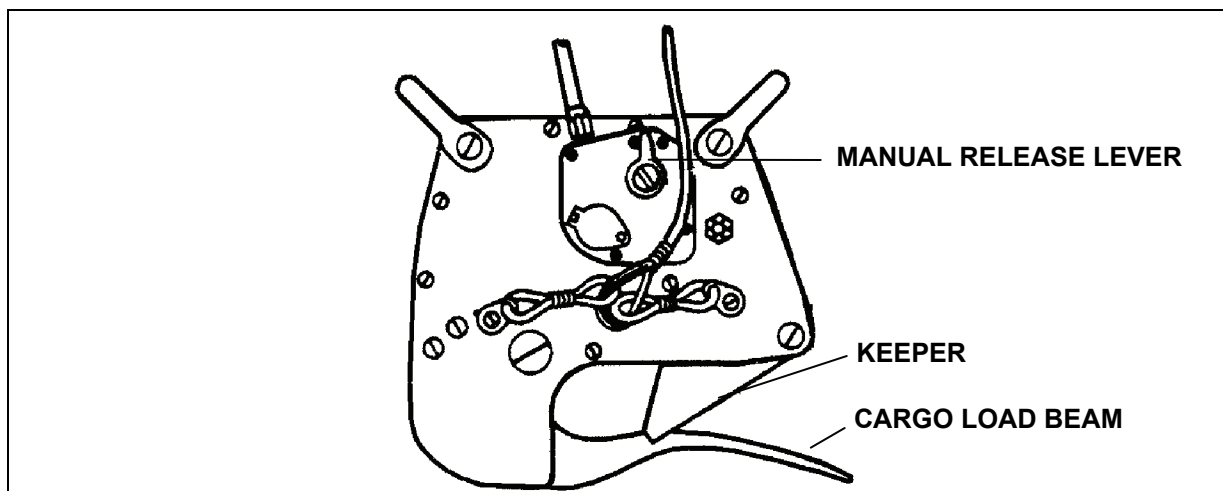

Figure 2-9. H-3 Cargo Hook System
- Both cargo hooks (Figure 2-9) are normally opened manually or electrically by the aircrew. A manual release lever is located on the right side of the cargo hook. In an emergency, the ground crew can move the lever aft to open the cargo hook. If the manual release lever should fail to open the cargo hook, do not use the cargo hook.